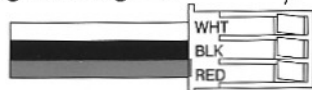

Figure 1-2
- 1) First make sure the battery is disconnected from the speed control. Using a small hobby knife, or jeweler's screwdriver, press in the three metal tabs only far enough that each of the wires can be removed from the black plastic plug housing. (*figure 1-2, step A*)
- 2) After removing the wires from the receiver plug, use a hobby knife or jeweler's screwdriver to lift the metal tabs on each of the wires back up. (*figure 1-2, step B*)
- 3) Select the plug housing that matches your radio system and insert the wires into the housing. Make sure that you put the wires in according to the lettering on the plastic housing. The red wire goes into "RED", the black wire goes into "BLK", and the white wire goes into "WHT" (*figure 1-2, step C*). Wires will snap into place when inserted into the plug housing correctly.